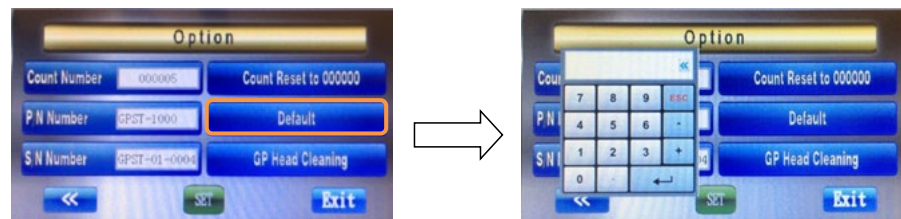

Figure 3.2.17
- Once the 'Default' box is selected, a data entry window pops up for you to input the password. (Fig. 3.2.17)